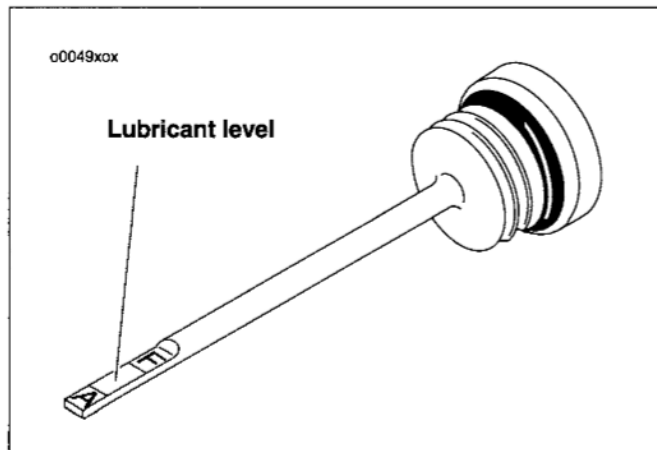

Figure 33. Transmission Lubricant Dipstick
See Figure 33. The transmission lubricant level should be checked monthly.
1. See Figure 33. Remove the threaded filler plug.